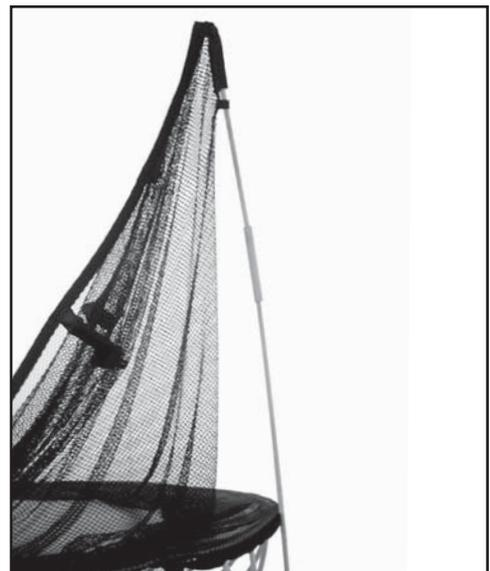

Figure 17: Inserting an enclosure rod into a pocket
* NOTE: Ensure the rod is pushed right to the end of the pocket. Unless you do this, the internal catch cannot prevent the rod from coming out during use. (Figure 17).